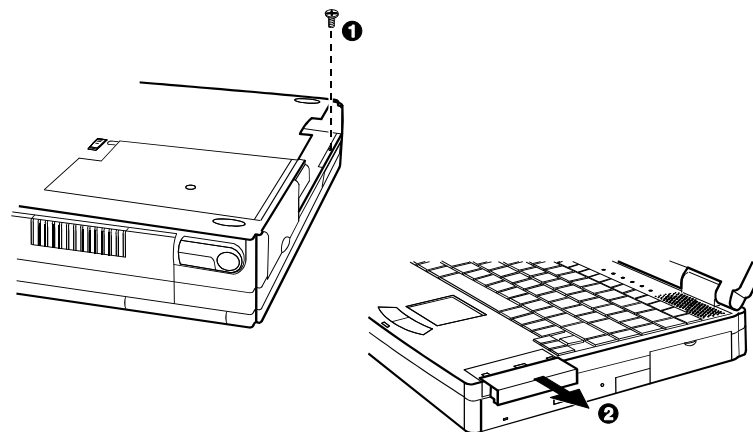

FIGURE 7-11. OPENING THE MEMORY EXPANSION CARD COMPARTMENT COVER
- b. REMOVE THE BOTTOM SCREW AS SHOWN IN FIGURE 7-11.
2. REPLACE THE MEMORY EXPANSION CARD COMPARTMENT COVER AND SECURE WITH ONE SCREW. (REFER TO FIGURE 7-11 EARLIER).